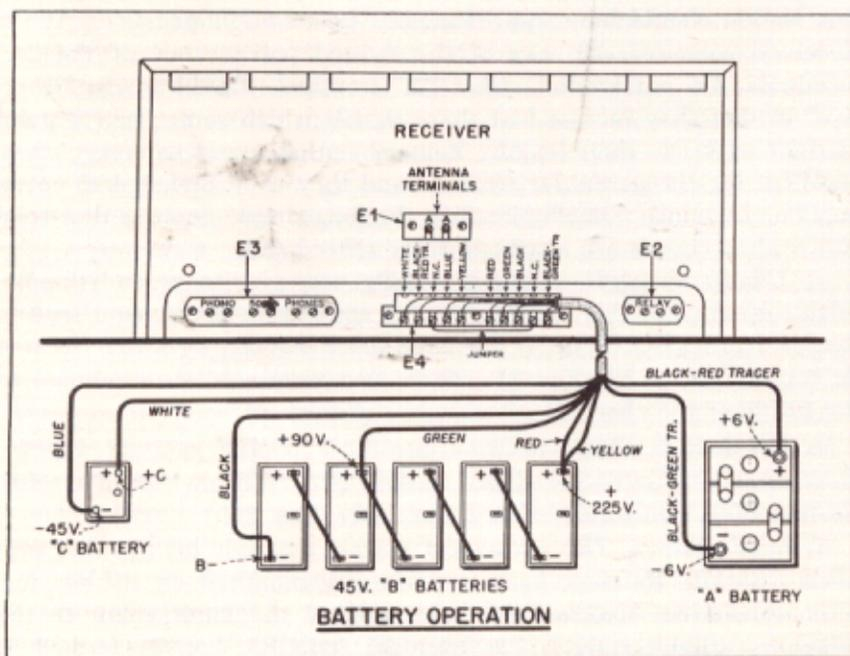

FIG. 4—Connections for power cable—battery operation.
b. *Connection for Battery Operation*—A cable for use in battery operation is available on special order. This cable (W2 in Parts List) has only one terminal strip. The other end of the cable is made up of eight loose wires. Connect this cable according to FIG. 4 (note the color code for the eight loose wires), or make up connections to serve the purpose. Connect the battery cable to the Receiver *first* and replace the terminal cover *before* making connections to the batteries. When disconnecting battery operation, disconnect the battery cable from the receiver. All operations of the Receiver are the same with either the Power Supply or the battery set-up.